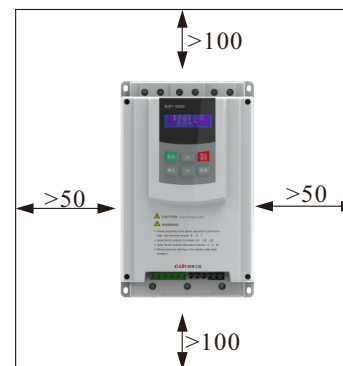

Figure 1
1. Installation orientation and spacing: To ensure good ventilation and heat dissipation, the soft starter must be installed vertically. Sufficient clearance must be maintained around the unit for heat dissipation (see Figure 1). Figure 2 specifies the minimum allowable distances. (All dimensions in the figures are in millimeters.)